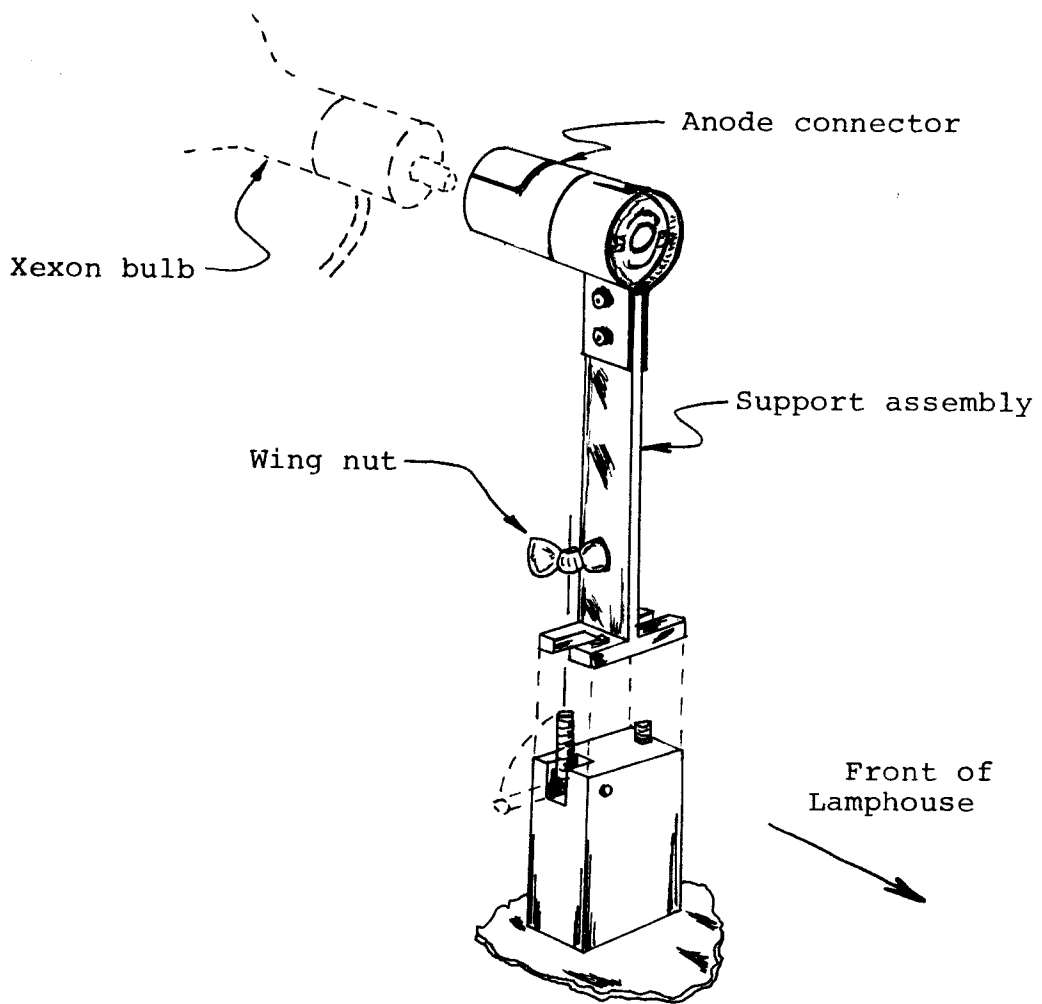

Figure 3-8
- f. (XH-30S Lamphouse Only) Locate the wing-nut on the anode support assembly and loosen to allow removal of the support with anode connector, ORC P/N 1134986-3 and set support assembly off to one side (see Figure 3-8).
f. Locate the wing-nut on the anode support assembly and loosen to allow removal of the support with anode connector ORC P/N 1124915 and set support assembly off to one side (see Figure 3-8).